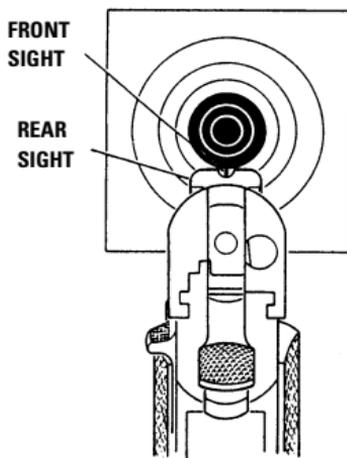

FIGURE 5 - AIMING
3. Grasp pistol by the stocks and, with index finger resting along the outside of trigger guard, take aim. Aim by aligning target with front and rear sights. (See Figure 5). After identifying your target and seeing that it is clear to shoot, focus REAR on the front sight. Be sure you have a safe SIGHT backstop. THINK! What you will HIT if you MISS the target?